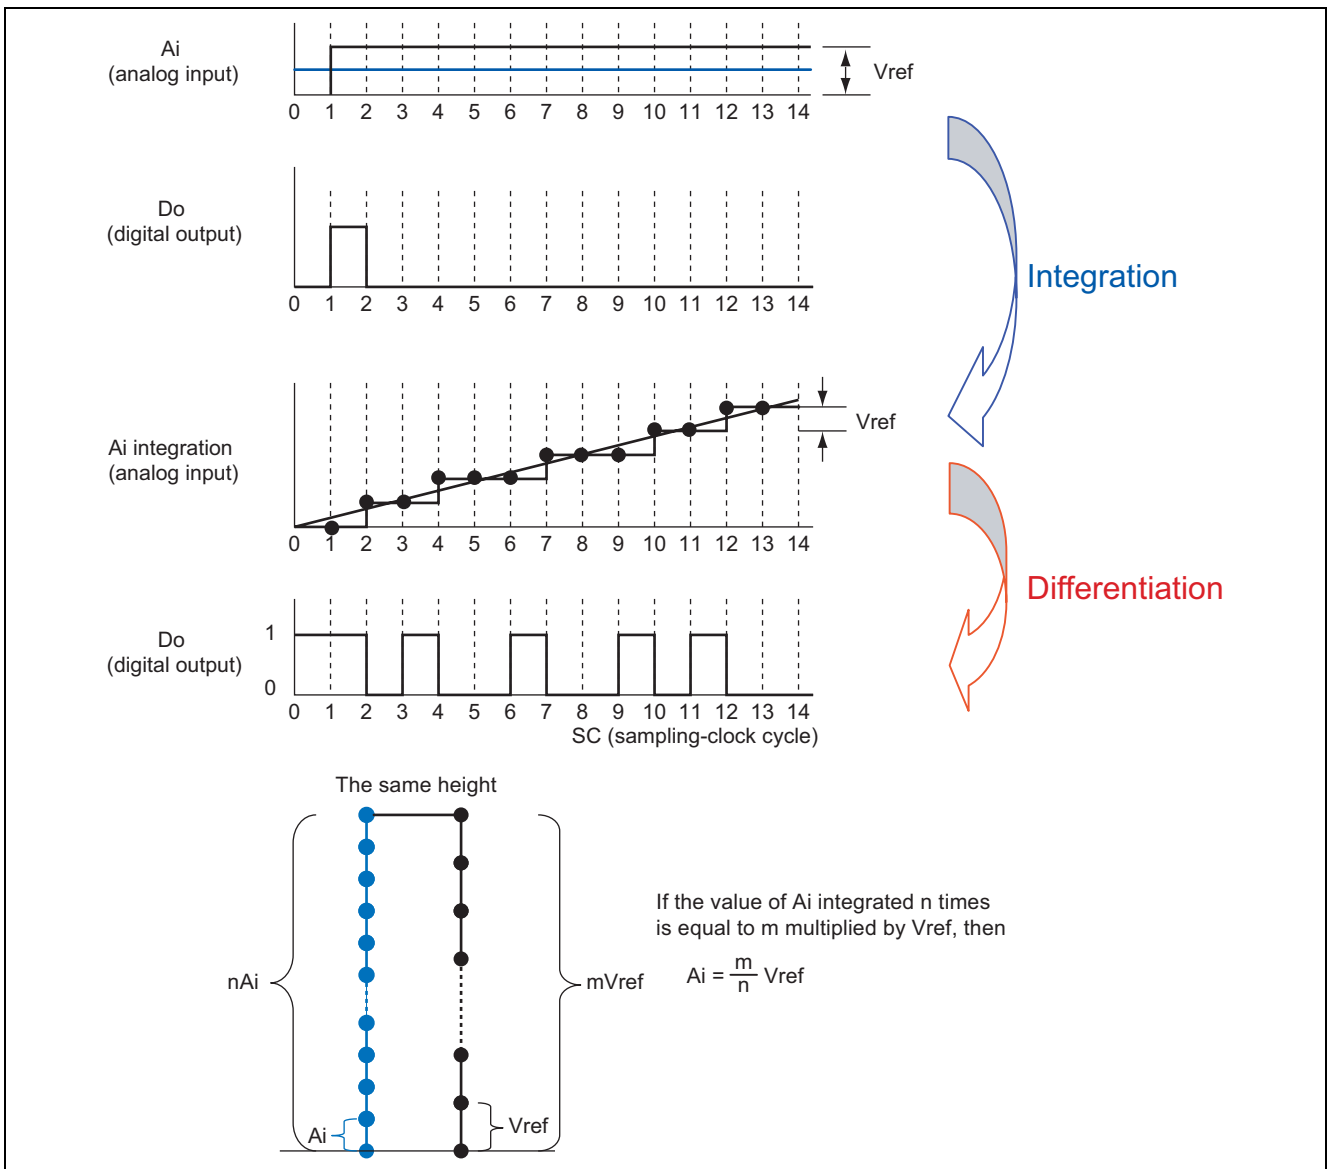

Figure 1.3 Comparison of the Integrated Value and V_{ref}
Now, let us compare the integrated value with integer multiples of V_{ref} as shown in figure 1.3.
- When $SC = 3$, A_i has been integrated three times. V_f (still at V_{ref}) is compared with $3A_i$. As we see in figure 1.3, the digital output is 1 since $V_{ref} < 3A_i$. V_{ref} is again added to the voltage for use in the next measurement (the result being $2V_{ref}$).
- When $SC = 4$, A_i has been integrated four times. Thus $2V_{ref}$ is compared with $4A_i$. In figure 1.3, the digital output is 0 since $2V_{ref} > 4A_i$. The same voltage ($2V_{ref}$) is then used in the next round of measurement.